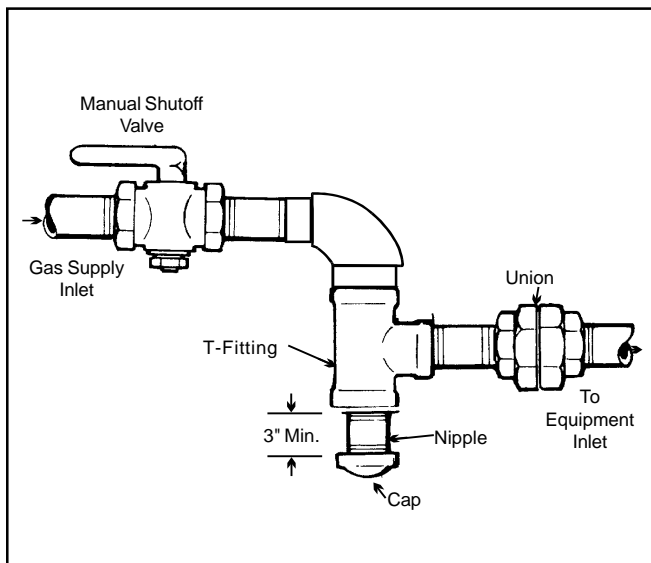

Figure 7. The Proper Design for a Sediment Trap/Drip Leg.
- 7. Install a sediment trap (drip leg) ahead of the gas controls (see Figure 7). Fit the trap with a threaded cap which can be removed for cleaning.